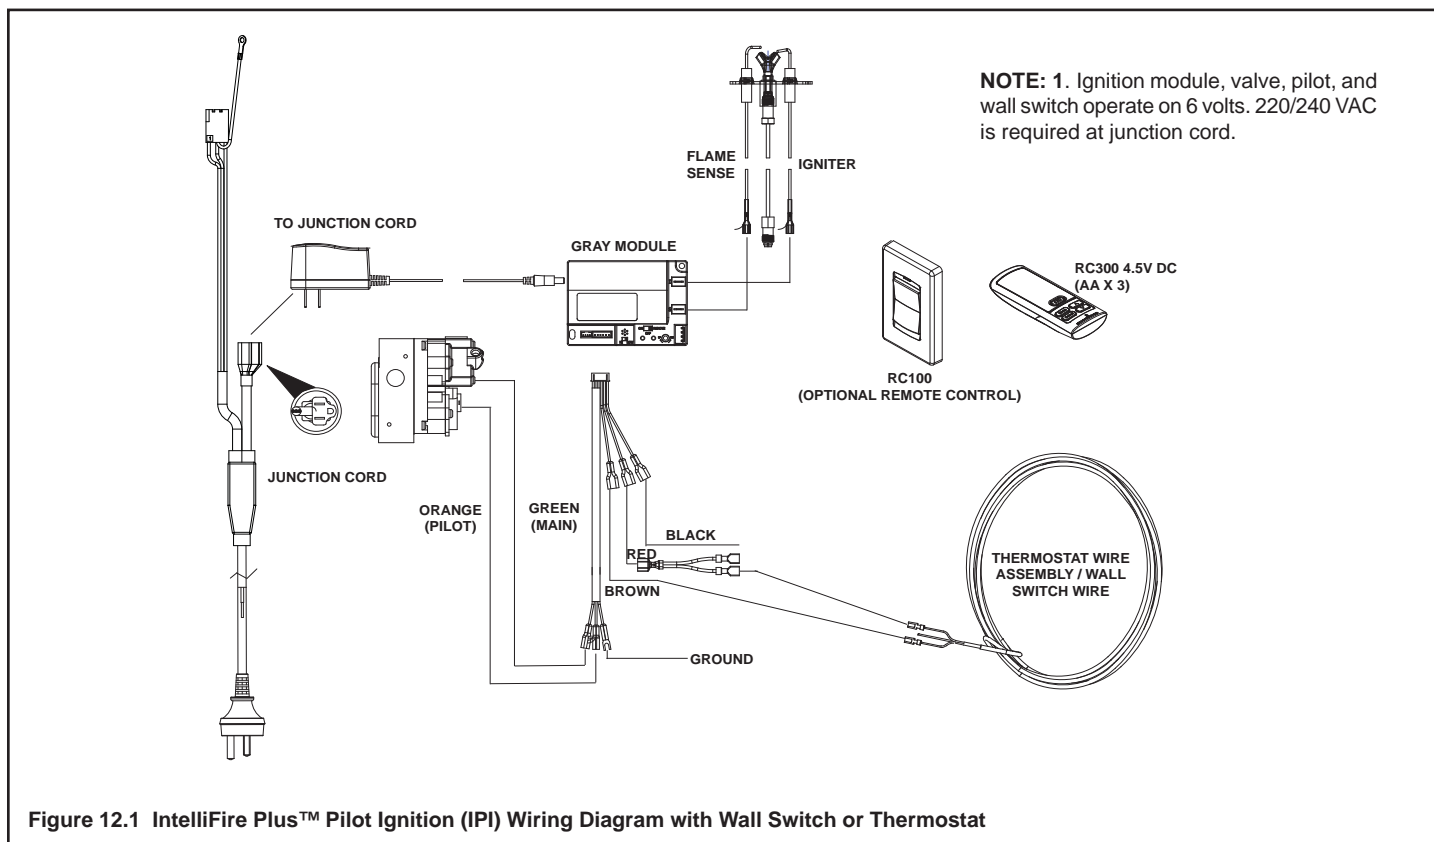

Figure 12.1 IntelliFire Plus™ Pilot Ignition (IPI) Wiring Diagram with Wall Switch or Thermostat
- Refer to Figure 12.1, IntelliFire Plus™ Pilot Ignition (IPI) Wiring Diagram.